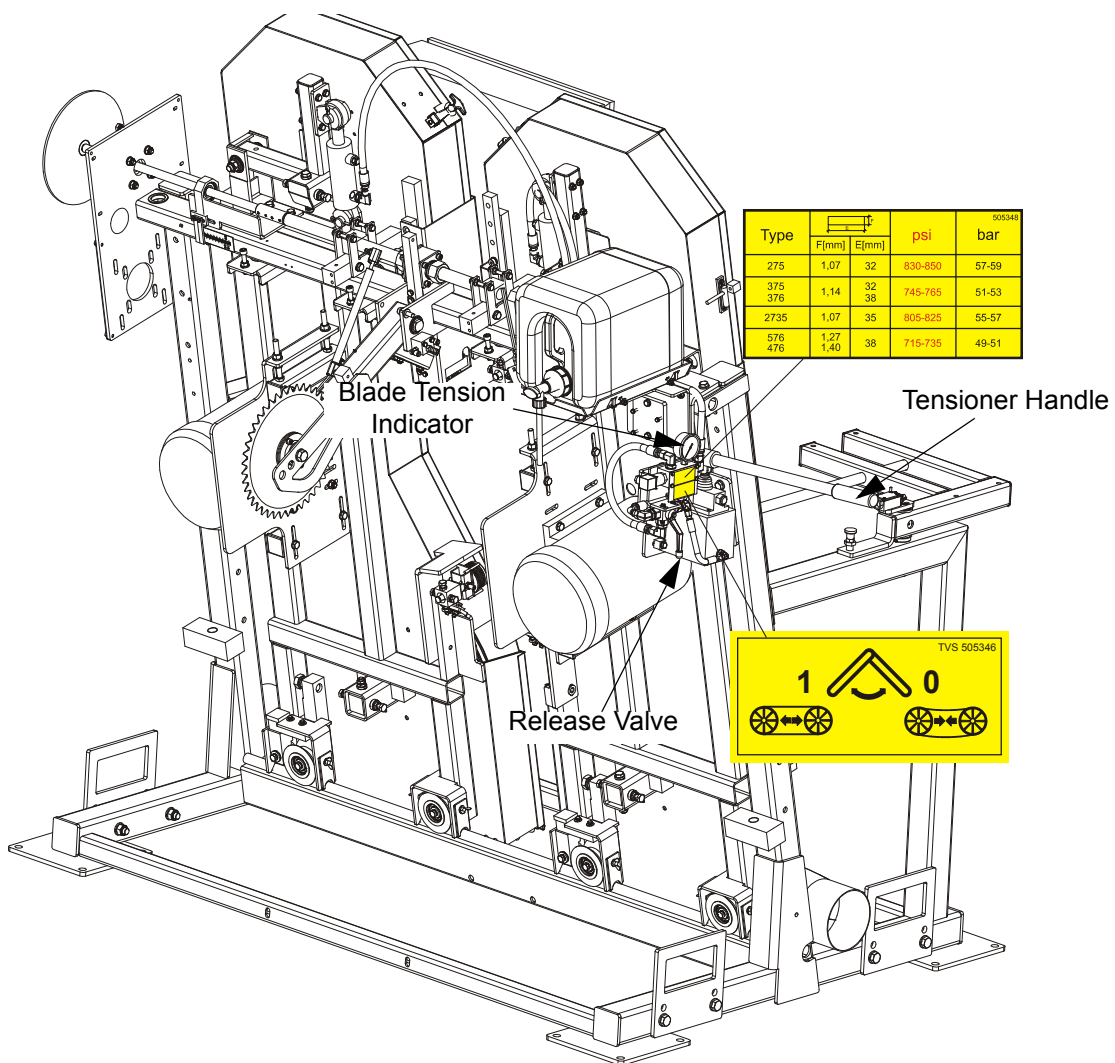

FIG. 2-3
See Figure 2-3. Place the provided handle in the blade tensioner socket and secure with a screw. Set the tensioner valve to position "1". Move the tensioner handle up and down to tension the blade. Depends on the installed blade type, tension the blade to the value shown on the decal located below blade tension valve. Values "F" and "E" are: blade thickness and blade width. Check the blade tension occasionally when adjusting the cant control or while cutting and adjust if necessary. As the blade and belts heat up and stretch, the blade tension will change. Also, ambient temperature changes can cause tension to change. To release the blade tension set the tensioner valve to "0"
5. Use the cant adjustment bolt, shown in **Figure 2-3**, to adjust where the blade travels on the blade wheels.